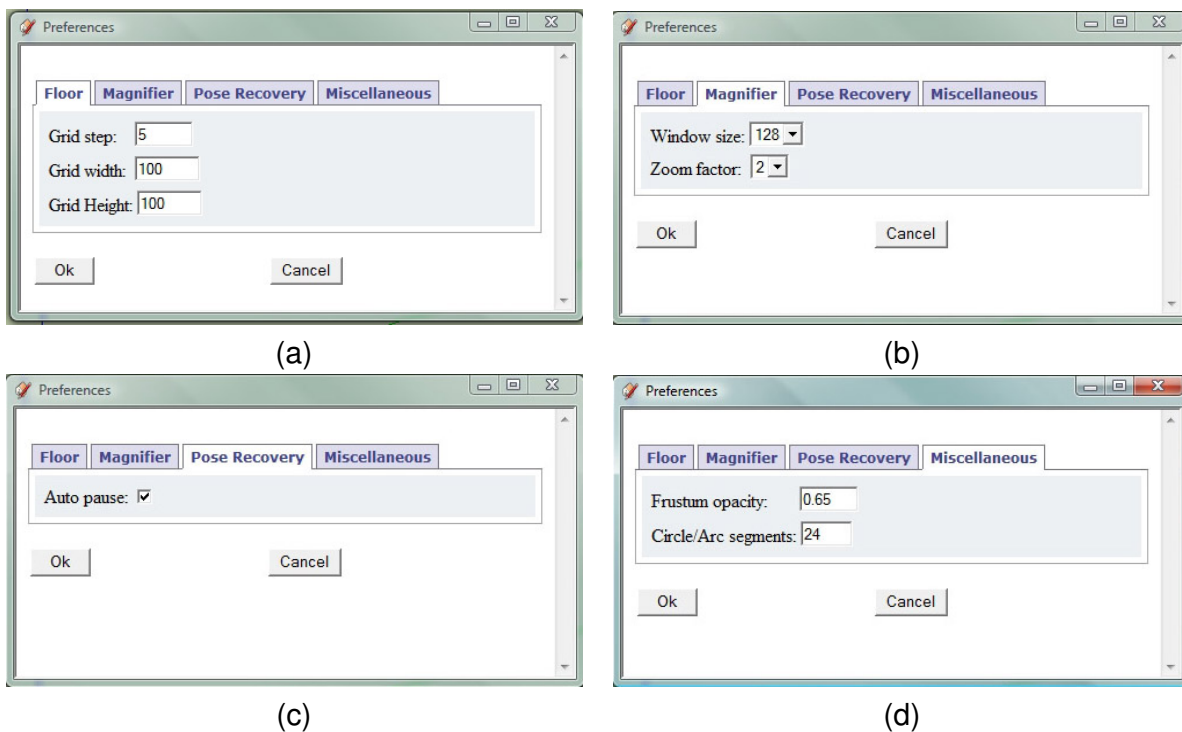
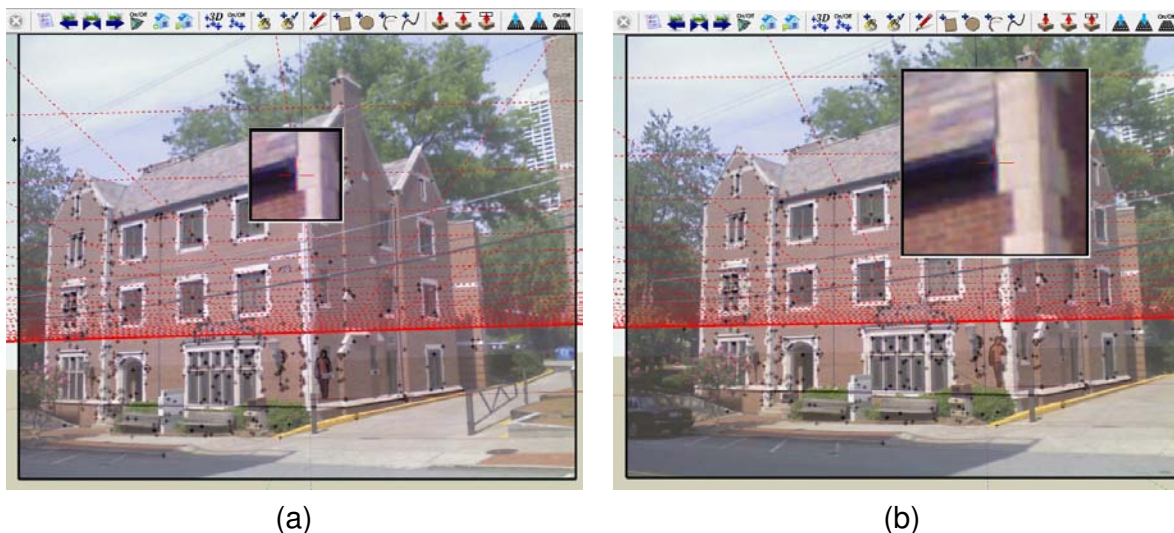
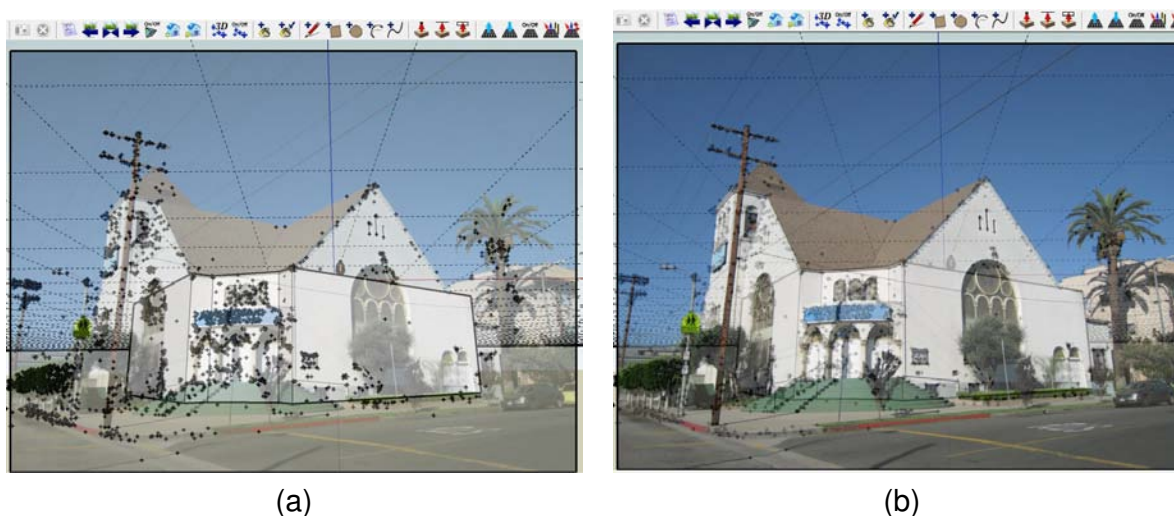

Figure 6.7: Preferences form with tabs for (a) floor plane, (b) magnifier, (c) pose recovery, and (d) miscellaneous parameters.
Figure 6.9: Effects of changing the magnifier window size (in pixels) and zoom factor. (a) Window size = 128 and zoom = 2. (b) Window size = 256 and zoom = 3.
Figure 6.10: A frustum opacity of (a) 0.5 and (b) 0.85
Click on the Preferences  icon to launch the preferences form (Fig. 6.7(a)). This permits you to customize different aspects of your PhotoSketch project.
The second tab in the preferences form allows the user to change the magnifier window size and zoom factor (Fig. 6.7(b)). Fig. 6.9 shows the effects of these changes.
In the third tab, the user can set/clear the "Auto pause" flag for use during camera pose recovery (Fig. 6.7(c)). If this flag is set, pose recovery pauses after feature extraction and feature matching to give the user a chance to save the results. Setting this flag is most useful in those cases where the user may want to save partial results so that the session may be continued at a future time without having to recompute this data. If, however, the user wishes to leave the job running unsupervised, then the flag should be cleared so that the computation may proceed uninterrupted after the webdialog reports issued during camera pose recovery are updated.
In the fourth tab, the user can specify miscellaneous options (Fig. 6.7(d)). The frustum opacity value lies in the $[0, 1]$ range, with the default value being 0.65. A value of 0 (1) denotes a fully transparent (opaque) photo in the frustum. Fig. 6.10 shows the effect of changing the frustum opacity.